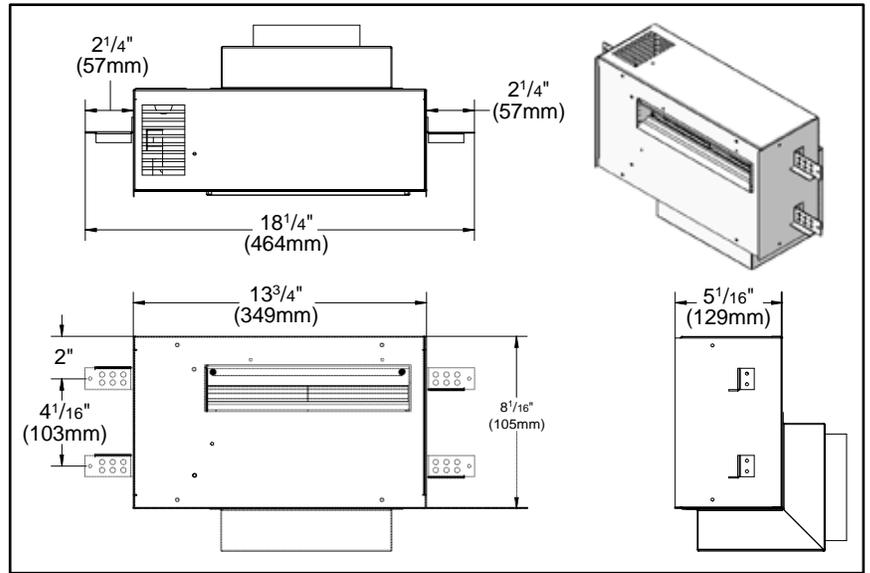
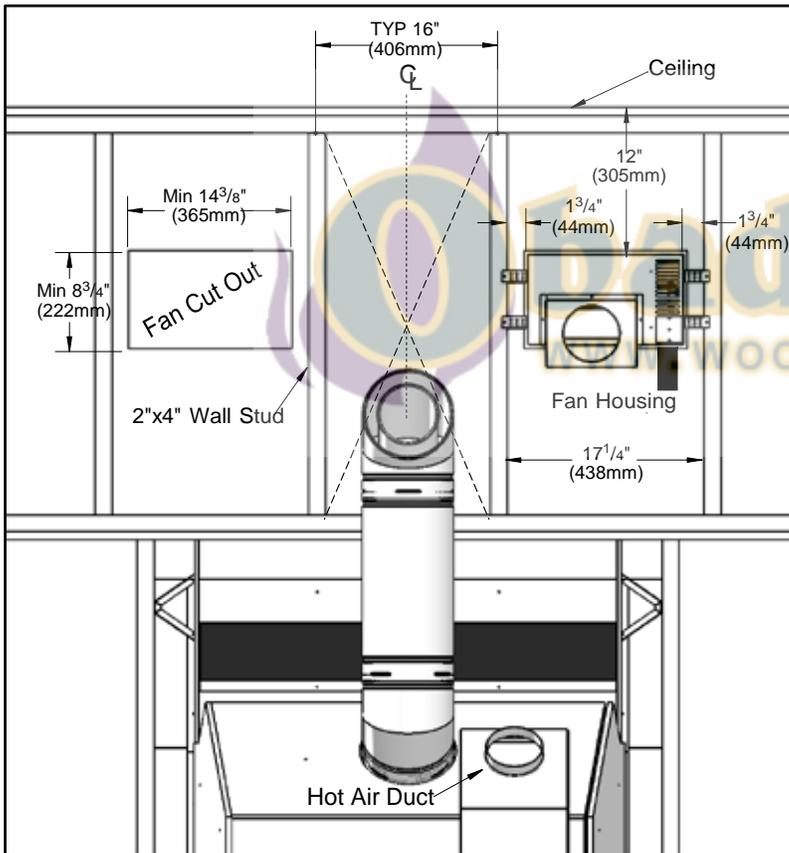

Figure 5: Fan housing overall dimensions.
Figure 6: Minimum Installation Clearances for Fan.
4. With the “Figure 5: fan housing overall Dimensions.” and “Figure 6: Minimum Installation Clearances for Fan.”